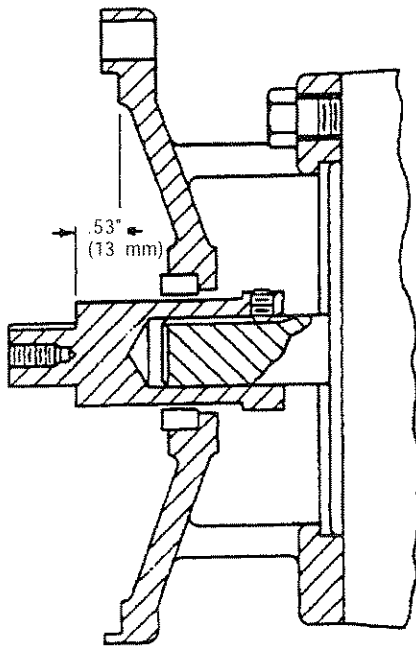

Figure 8-17. Stub Shaft Adjustment
See Figures 8-17 and 9-16.
9. Remove stub shaft and replace with new one. Secure with set screws previously removed (see Figure 8-17 for stub shaft adjustment). Tighten set screws to 5 to 6 foot-pounds torque.